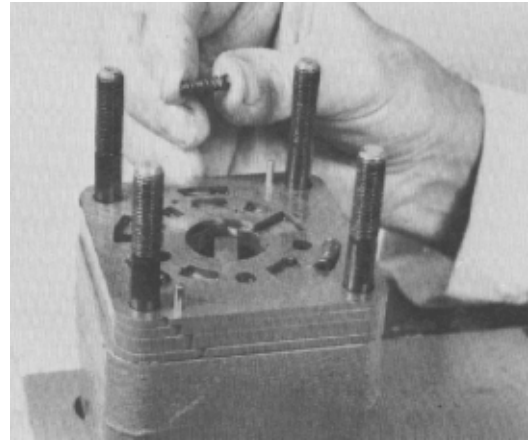

Figure 115
34. Put the three 1/2 in. (13 mm) springs into the spring pockets of the isolation manifold (Fig. 115).